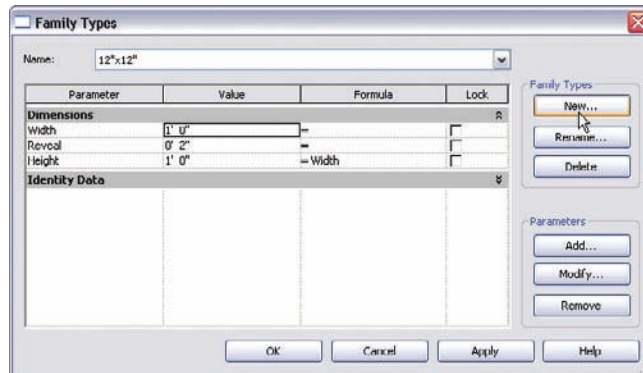

FIGURE 17.10 Creating a new family type
10. Click the New button in the Family Types area, as shown in Figure 17.10.
11. Call the new type 12"x12" and click OK (see Figure 17.10).